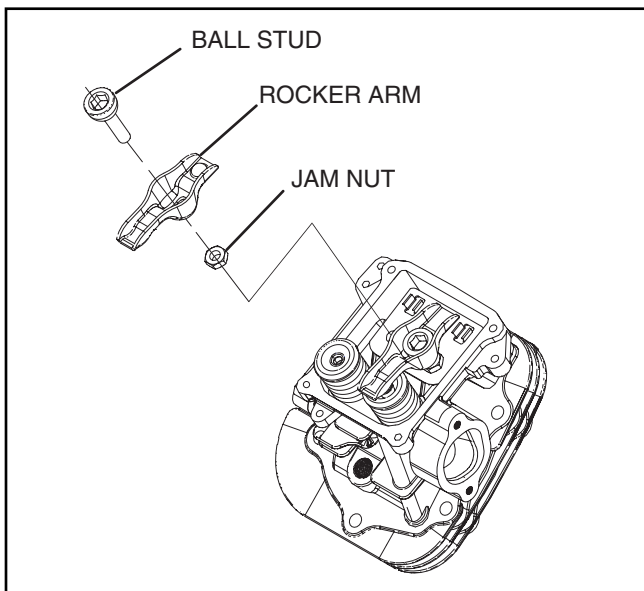

Figure 5-3.
1. Unlock jam nuts and remove two ball studs and rocker arm assemblies (see Figure 5-3).